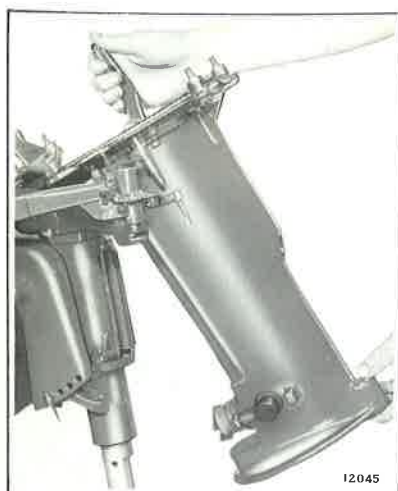

Figure 6-8. Removing Exhaust Housing from Steering Bracket
- Lift exhaust housing from steering and stern bracket assemblies. See Figure 6-8. Shift lever and linkage can be disassembled from exhaust housing if further servicing is indicated. When removing handle, remove clamp screw all the way as this screw rides in a groove in the adjustment lever shaft. Using a length of throttle control wire with a hook on one end, hook and pull water tube grommet out of exhaust housing.